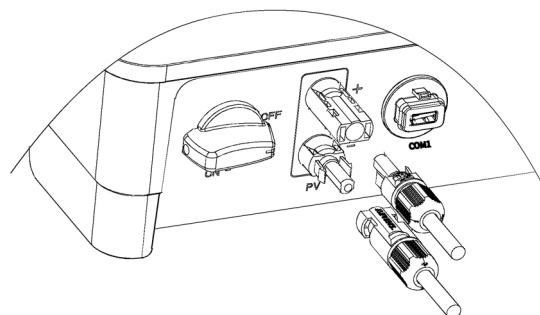
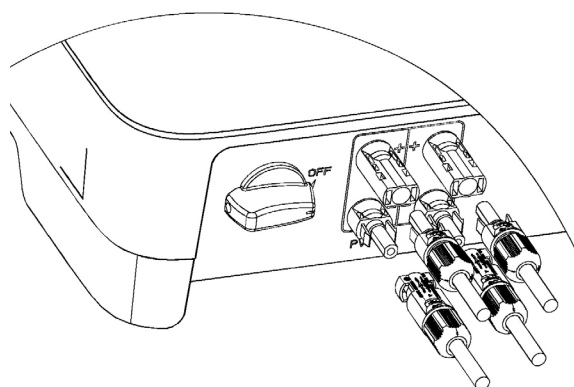

Fig. 45. Connecting the DC input terminals of units with 1 MPPT.
Fig. 46. Connecting the DC input terminals of units with 2 MPPTs.
- Insert the positive and negative connectors into the respective DC input terminals of the inverter. If the terminals are properly connected, they will make a clicking sound, as shown in Fig. 45 and Fig. 46: